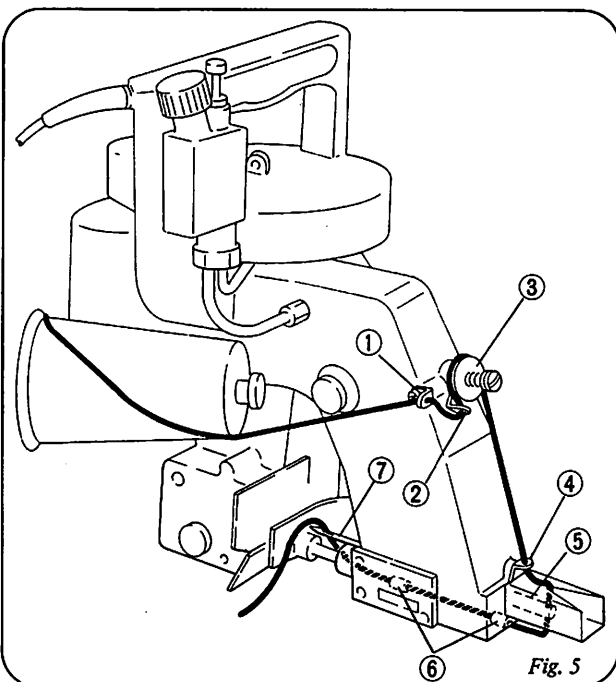

Fig. 5
3. Threading (Fig. 5)
The machine is delivered being threaded to show you proper threading of the machine, which is shown in Fig. 5, for identification. Follow the guide numbers 1 to 6 of Fig. 5.